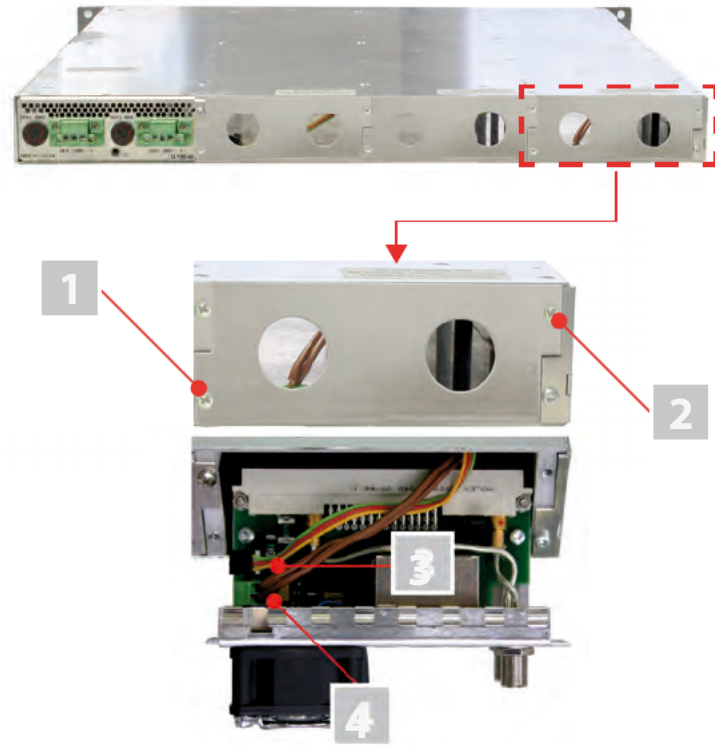

Figure 3: Installing the backplane in the base unit
Plug the bridge into the installation position provided in accordance with figure 3 (page 8).
1. When the U 100 base unit is in its delivery state, the three installation slots for the backplanes are covered by dummy plates (see figure 3, above). Start by removing the Phillips-head screws [1] and [2] from the dummy plate at the required installation position (left, middle or right) and remove the dummy plate.
2. You can now see the two connection cables for the selected slot (power supply and signal cable). Connect the cables to the backplane as shown in figure 3 (above).